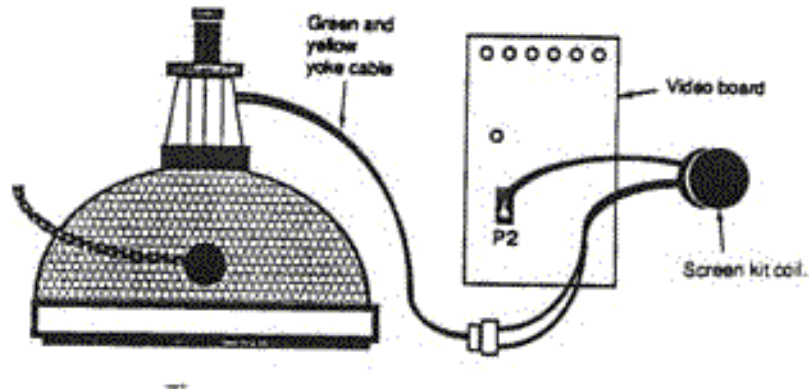

Figure 29
12. Unplug the green and yellow CRT (yoke) to P2 cable from the video board. As illustrated in Figure 29, P2 is located approximately halfway down the left side of the board.